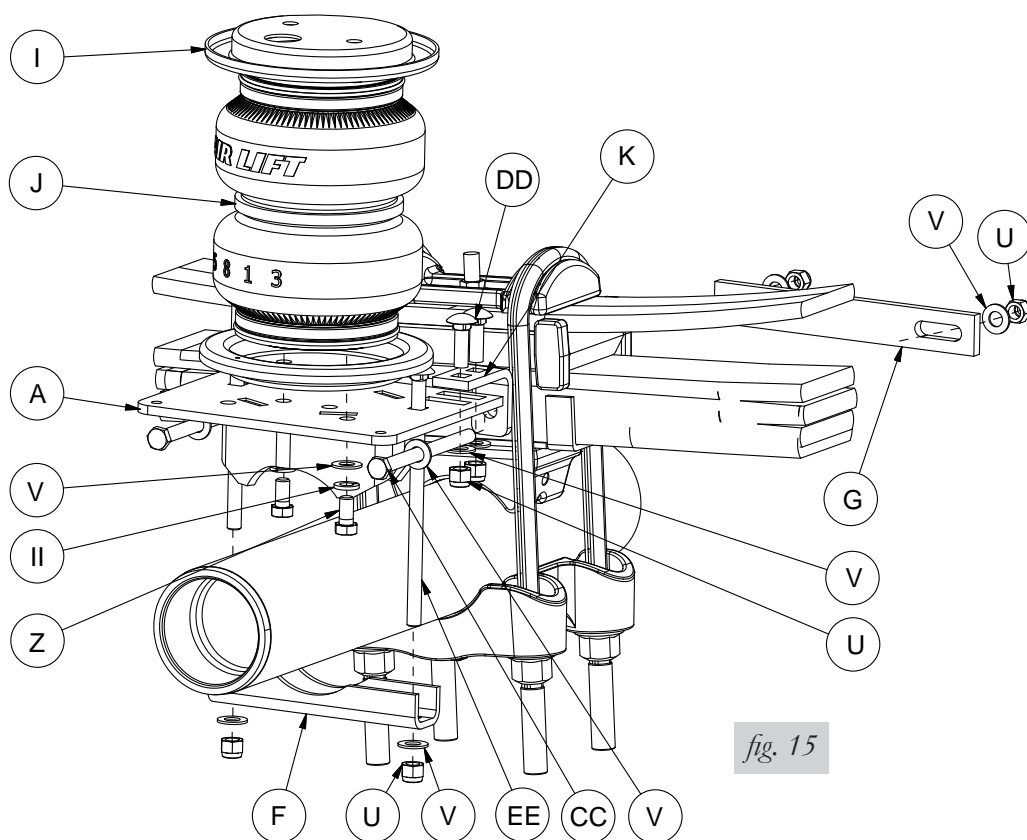

fig. 15
1. Insert a long 3/8" bolt (CC) and flat washer (V) through the top round hole of the four hole locating bracket (K). (fig. 15).
4. Using the long 3/8" bolt (CC) and flat washer (V) previously installed on the four hole locating bracket, insert them into the spring clamp bar (G) on the opposite side of the leaf spring assembly (fig. 15). Cap with 3/8" flat washer (V) and nyloc nut (U). Leave loose at this time.
5. Insert a long carriage bolt (EE) through the remaining square hole in the lower bracket (forward of the axle) opposite of the one previously installed in the bellows assembly. Set the clamp bar (F) over the two carriage bolts and cap with two 3/8" flat washers (V) and two nyloc nuts (U).